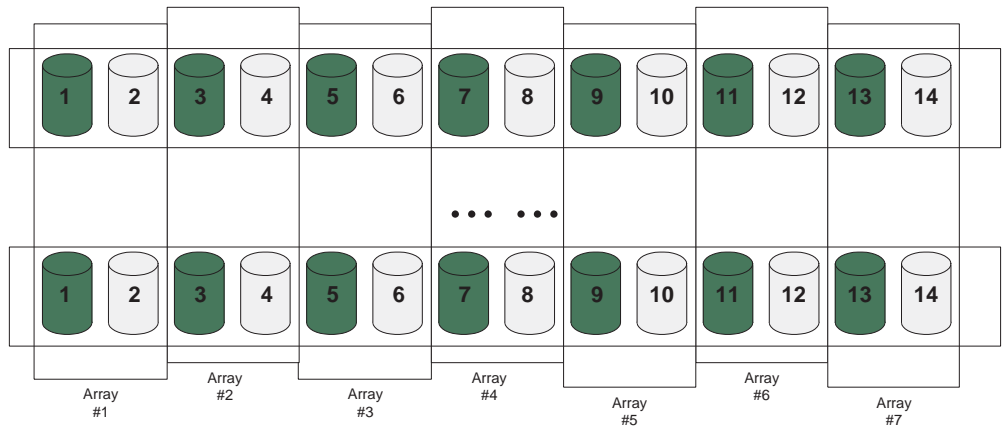

Figure 49. Using up two drives in a FAStT EXP100 in the RAID array
- An alternative approach, shown in Figure 49 on page 76, provides protection against single ESM failure, but not against a failure of the entire FASTT EXP100. This approach allows up to two drives in a given FASTT EXP100 enclosure to be part of an RAID array. One of the drives must be in any of the odd-numbered drive slots. The other drive must be in an even-numbered drive slot. If the array requires more than two drives, it must be defined over multiple FASTT EXP100 enclosures.